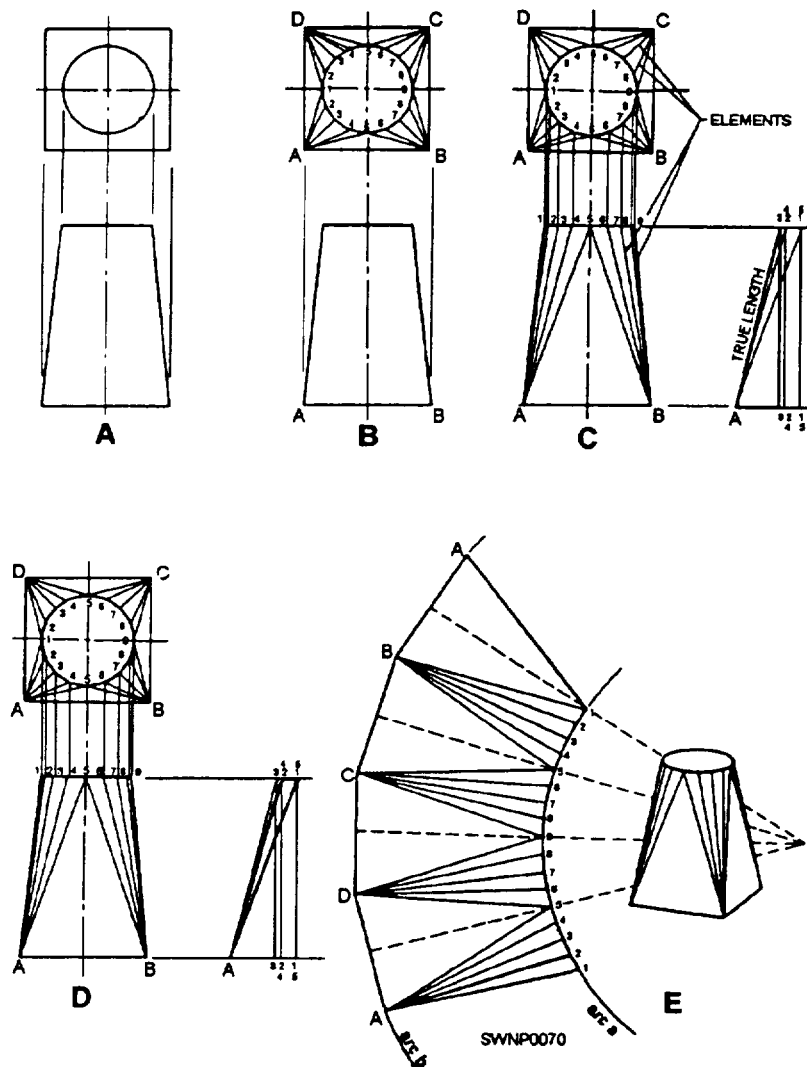

Figure 2-53.—Traingular development of a transition piece.
The steps in the triangulation of a warped transition piece joining a large, square duct and a small, round duct are shown in figure 2-53. The steps are as follows:
1. Draw the top and front orthographic views (view A, fig. 2-53).
2. Divide the circle in the top view into a number of equal spaces and connect the division points with AD (taken from the top part of view D, fig. 2-53) from point A. This completes one fourth of the development. Since the piece is symmetrical, the remainder of the development may be constructed using the lengths from the first part.
It is difficult to keep the entire development perfectly symmetrical when it is built up from small triangles. Therefore, you may check the overall symmetry by constructing perpendicular bisectors of AB, BC, CD, and DA (view E, fig. 2-53) and converging at point O. From point O, swing arcs a and b. Arc a should pass through the numbered points, and arc b should pass through the lettered points.